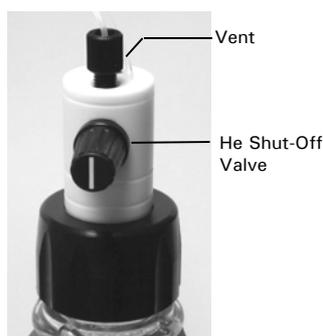

FIGURE 5-1. The He Shut-Off Valve (Opened Position)
- a) Close the Shut-Off Valves (FIGURE 5-1) and apply 3 bar (45 PSI) of He pressure.